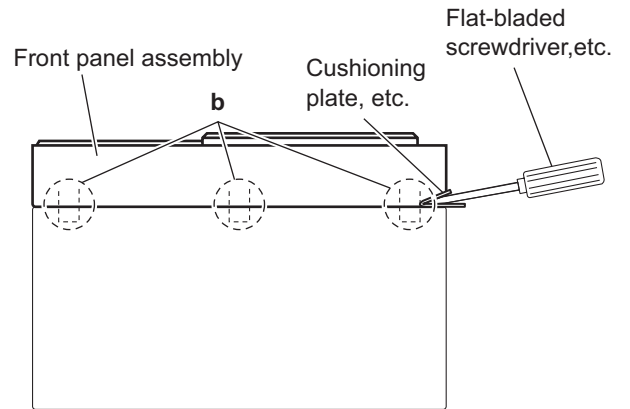

Fig.2
### 3.4.2 Removing the front panel assembly (See Figs.2 and 3)
(1) Insert the tip of a flat-bladed screwdriver or similar tool into the space between the speaker main body and front panel assembly, and lift the front panel assembly little by little to remove the sections **b**. (See Fig.2.)
To prevent damaging the front panel assembly and speaker main body, insert cushioning plates etc. into the space between the speaker main body and front panel assembly. (See Fig.2.)